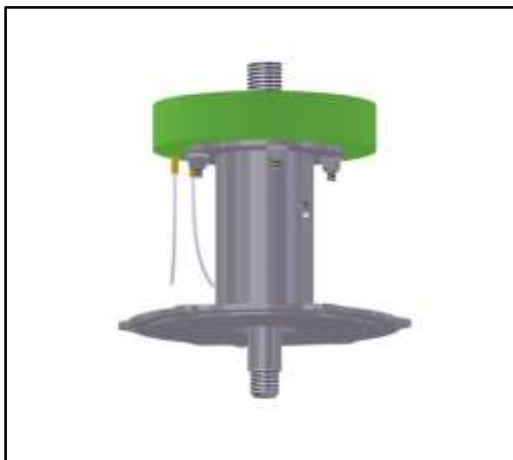
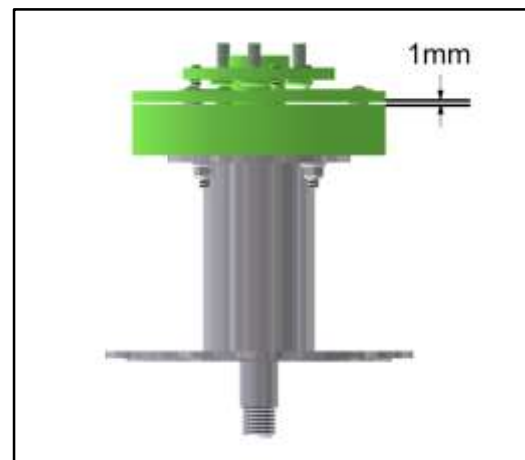

Figure 21: correct positioning to screw the coil.
Figure 22: correct distance between brake assembly and coil.
- e) Attach the brake coil to the bearing housing, noting that the wires must be positioned on the opposite side of the shaft lock hole and of the drain hole (figure 21). Lock the shaft with the aid of a round bar and thread the brake disk, so that it is approximately 1mm away from the coil (figure 22). If the distance of 1mm is not reached, check the adjustment in chapter 3 of this manual.